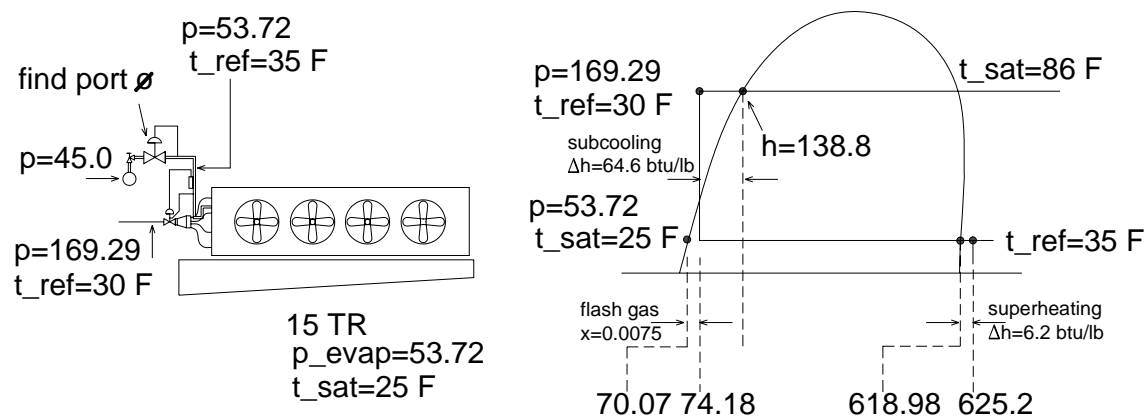

Figure 1
*Problem:* Select the EPR port diameter for the evaporator shown in Figure 1 below. Given: a 15 TR evaporator to be installed on a dock maintained at 45 °F. Liquid will be supplied to this evaporator with HPL at a mean condensing pressure of 155 psig (subcooled to 30 °F) into a thermal expansion valve. The regulator will be set to maintain an evaporating temperature of 25 °F; the TXV will superheat the leaving vapor by 10 °F. Figure 1 graphically depicts the process and plots the respective state points for predicting the following:
While five values of enthalpy are given in Figure 1, only two of these are needed to solve for mass flow to this evaporator. The other values are shown to emphasize the impact of liquid subcooling and vapor superheat upon mass flow in the following equation:
Note that for each pound of liquid supplied to this evaporator, very little heat is exchanged in the gaseous superheat region,  $\Delta h=6.22\text{ btu/lb}$  for a  $10\text{ }^{\circ}\text{F}$  rise in sensible temperature. This is a price one pays for superheating ammonia vapor in an evaporator. However, TR is more strongly affected (reduced mass flow) by subcooling HPL by  $56\text{ }^{\circ}\text{F}$  as seen in Eq 1 and Figure 1. If the liquid subcooling process were absent from this analysis, the mass percentage of liquid supplied to this evaporator would have to increase by 13% to  $6.17\text{ lb/min}$  for the same 15 TR. No doubt, the HPL line diameter would also have to increase due to the presence of flash gas. It is for this very reason (flash gas inside a HPL line) that subcooling this particular fluid stream has found favor in the industry.